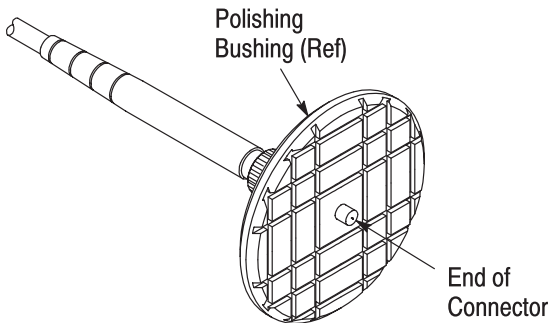

Figure 7
1. Screw the polishing bushing onto threaded end of connector. See Figure 7. Make sure connector is bottomed inside the polishing bushing.